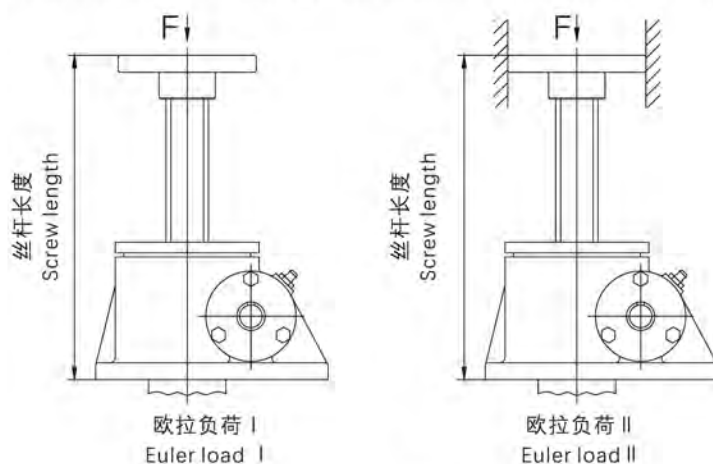
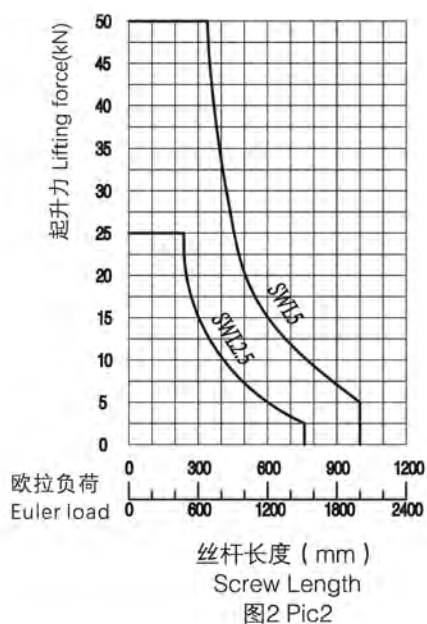
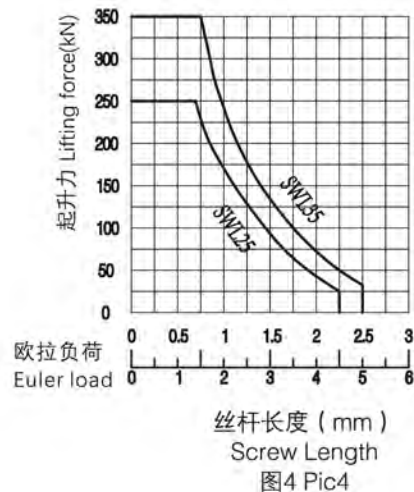

图1 Pic 1
图2 Pic2
图4 Pic4
根据丝杆行程和提升负荷查图1-图4, 找出所需升降机的型号, 再查提升力和提升速度表, 校核提升速度是否满足要求。
根据 $F=20\text{kN}$ , 丝杆行程 $=400\text{mm}$ , 查图2, 选择SWL5升降机 再查提升力和提升速度表核对SWL升降机在 $25\text{kN}$ 负荷下只允许 $0.526\text{m/min}$ 的速度, 只有重选大型号的升降机, 再查提升力和提升速度表得知SWL10在 $20\text{kN}$ 负荷下允许提升速度为 $1.44\text{m/min}$ 而满足要求。
- 1、当压力负荷减小时, 提升高度可随之增大(两者具体关系详见图2-图4);
According to the screw stroke and lifting load look up Figure 1-Figure 4, find the model of the lift you required, look up the Lifting power and Lift table again, Check the lifting speed if meet the requirements. For example: Known lifting load is  $F=20\text{kN}$ , Screw stroke $=400\text{mm}$ , Lifting speed  $V=0.65\text{m/min}$  Try to find the required lift
According to  $F=20\text{kN}$ , Screw stroke $=400\text{mm}$  look up Figure 2, Select SWL 5 lift, look up the Lifting power and Lift table again to check, SWL lifts only allow  $0.526\text{m/min}$  speed at  $25\text{kN}$  load, can only choose a size large lift. Re check the lifting force and improve the speed table that SWL10 allows  $20\text{kN}$  to enhance the speed of  $1.44\text{m/min}$  and meet therequirements under the load.
1. When the pressure load is reduced, Lifting height can be increased (The specific relationship between the two is shown in figure 2-Figure 4)